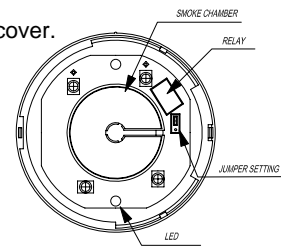

Fig.3 Schematic of detector structure
- To adjust the normal condition of the relay to "normally closed" (NC), insert a screwdriver into the rectangular hole located on the side between the front cover and base and rotate to remove the front cover.
- Refer to figure 3. There is a jumper head next to the relay on the PCB. Remove the jumper head and reinsert it in the NC position.